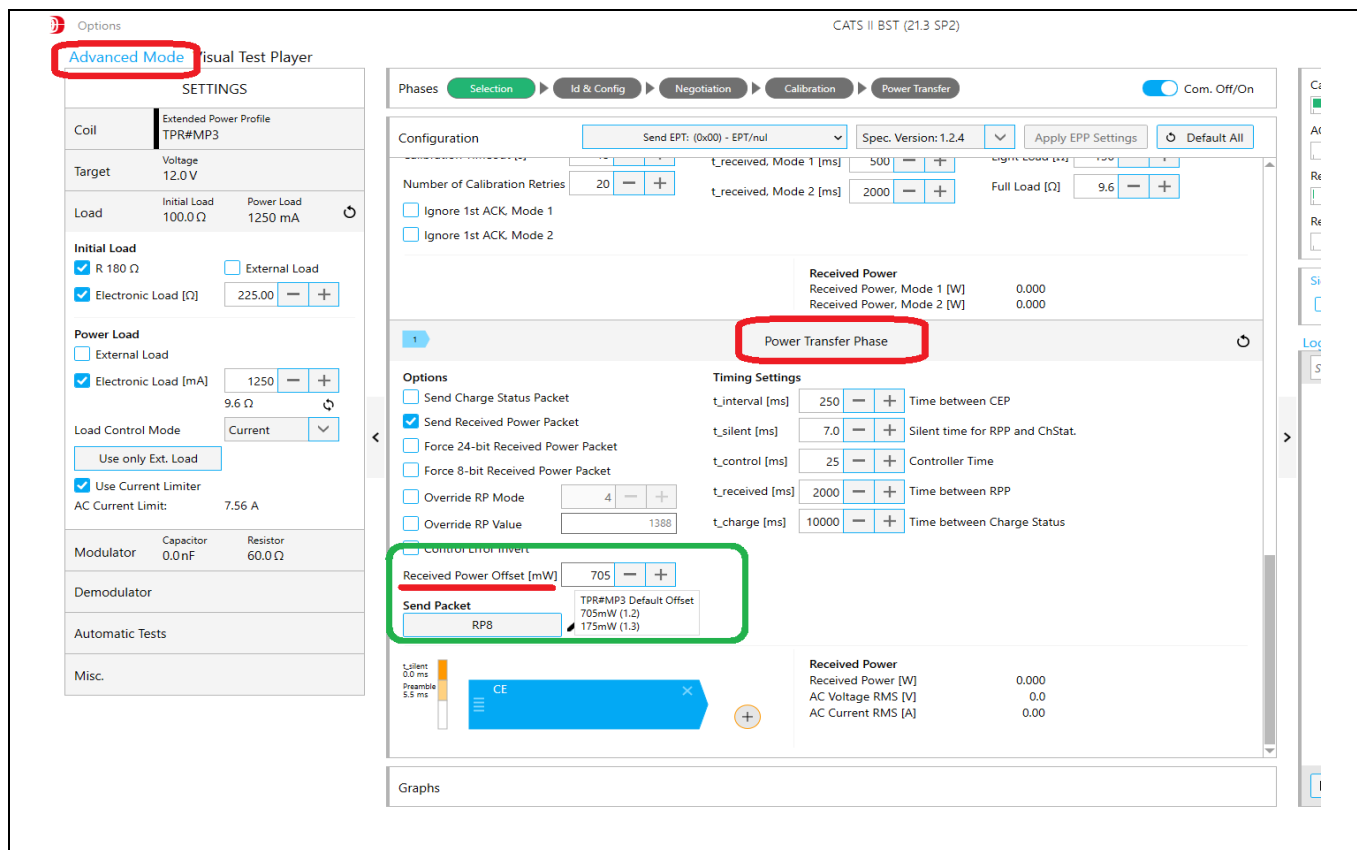

Figure 24 Received Power Offset in Advanced mode
1. Enable the Signal Strength Finder in the compliance tester tool. See Figure 24.
Received power offset is a modifiable parameter in the Power Transfer Phase setting in Advanced mode of the Qi compliance tester (see Figure 24).